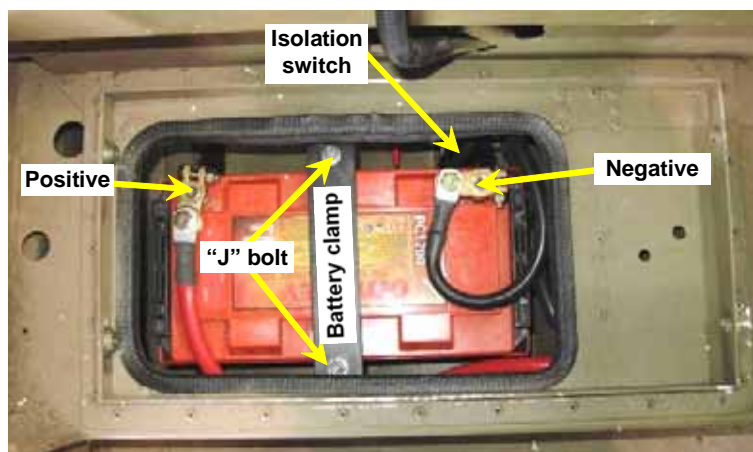

Figure 54 Main Vehicle Battery Orientation and Connections
- b. Position the main vehicle battery put aside earlier in this procedure in the mounting frame with the terminal's orientation as shown in Figure 54.
- c. Secure the battery in place with the battery clamp plate (Table 1, Item 40) and two short 'J' bolts each fitted with an 8 mm flat washer (Table 1, Item 42) and an M8 nyloc nut (Table 1, Item 36) as shown in Figure 54.